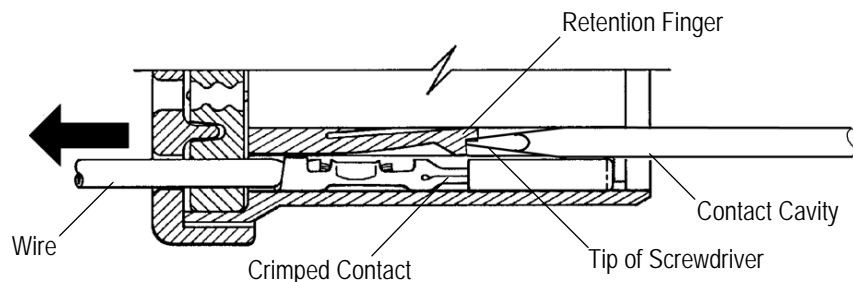

Figure 8
3. A 1.4-mm flat blade screwdriver must be inserted into the contact cavity so that the retention finger holding the contact is deflected. The wire must be gently pulled until the contact is free from the housing. This step must be repeated for the remaining contacts to be removed as shown Figure 8.